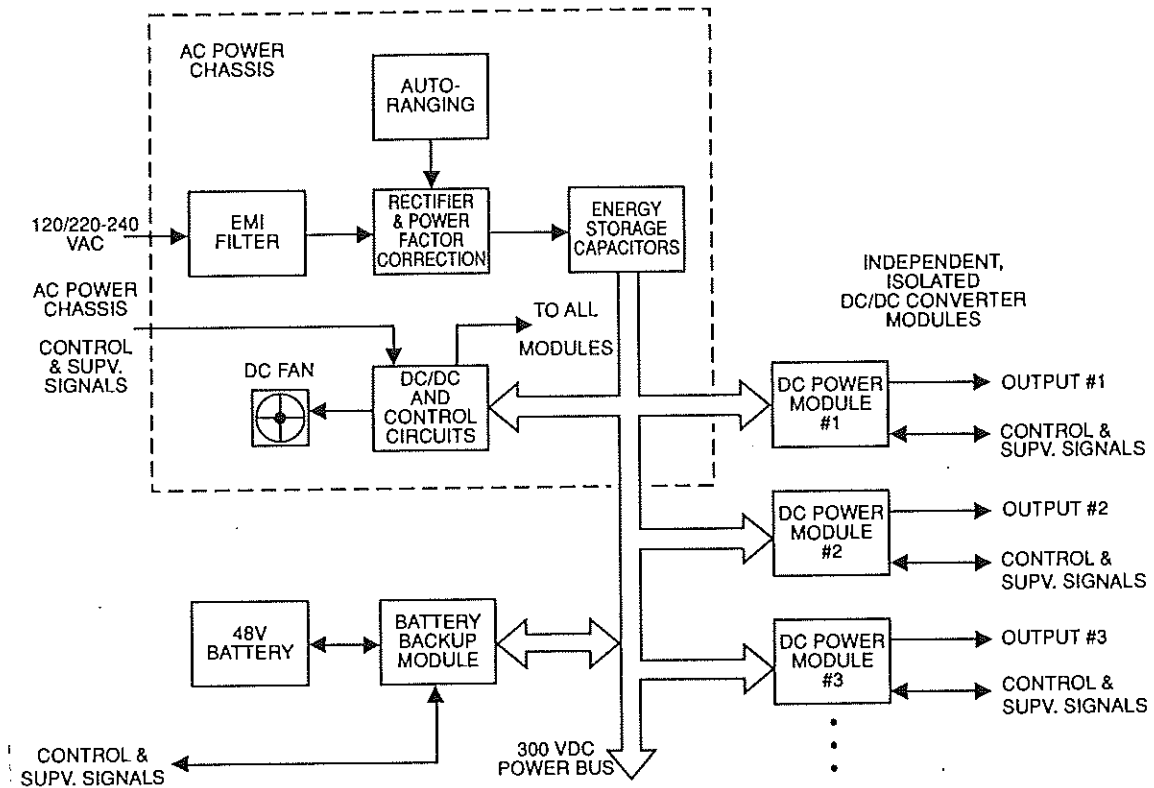

Figure 2. H Series Power System Block Diagram.
| Fig. 2 | H Series Power System Block Diagram | 2 |
- 5.1 **AC Power Chassis.** The UNIMOD H Series is designed as a distributed power system. See the block diagram, Fig. 2. The front end (AC Power Chassis) has an input EMI filter to suppress line noise and high frequency transients both from the AC power line and from the power system to the line. An autoranging circuit automatically selects the correct range for either 120 VAC or 220 to 240 VAC input voltages, and a power factor correction circuit (described below) maintains a high power factor. Inrush current limiting controls the initial AC input current on power up.